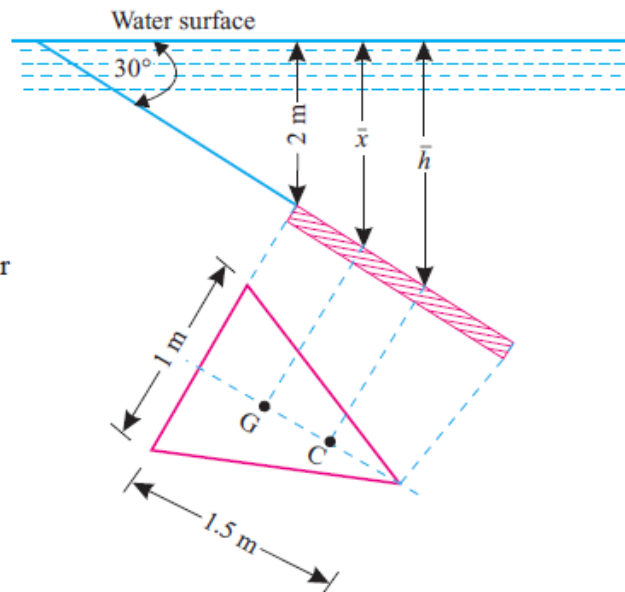

Fig. 3.31
**Solution.** Refer to Fig. 3.31.